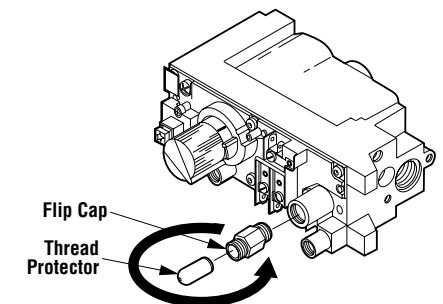

Figure 28
Step 5. Honeywell Systems - See *Figure 28* and the instructions provided with the kit. Remove the black thread-protecting cap. Remove the conversion flip cap by turning it counterclockwise.